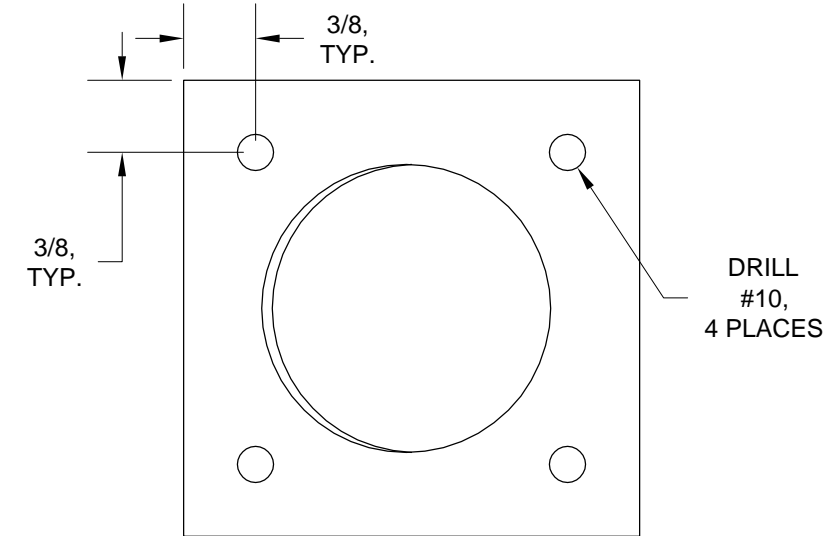

FIGURE 1: DRILLING THE STEP SUPPORT BLOCK
Step 1: Drill the F-1038 Step Support Block per the callouts in Figure 1.